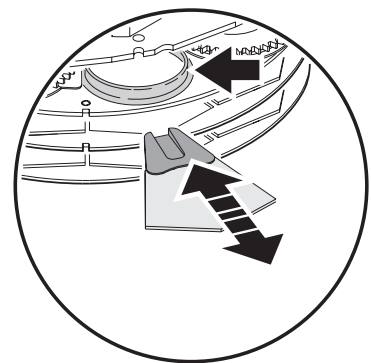

Figure 9: Filter replacement
3. For best access, align the rotating gobo wheel so that the open position is above the color filter to be replaced (see arrow in Figure 9).